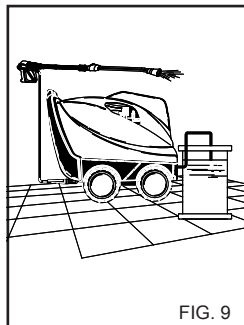

FIG. 9
- 3) After using with detergent, flush out the inlet; place the detergent suction hose (fig. 9) in a tank of clean water and let the pump run for 1 minute with the dosing tap turned fully on and the lance in detergent delivery condition.
- 4) After using with detergent, flush out the inlet; place the detergent suction hose (fig. 9) in a tank of clean water and let the pump run for 1 minute with the dosing tap turned fully on and the lance in detergent delivery condition.